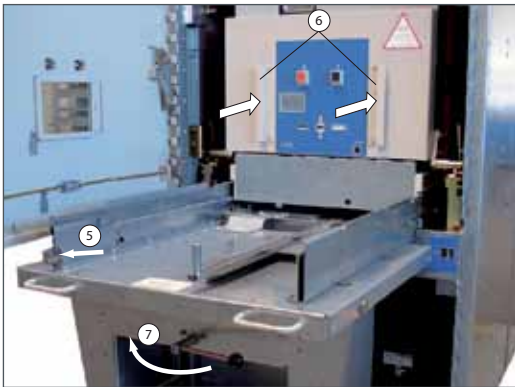

Fig. 4.13
- Press left-hand unlocking button (Fig. 4.13, 5) and slip truck briefly beyond the ratchet lever. Subsequently, slide truck into the panel using the handles (6), until it is latched in the panel.
- Turn lever back to the left (7). The trolley is lifted on the front, and removed from the panel.